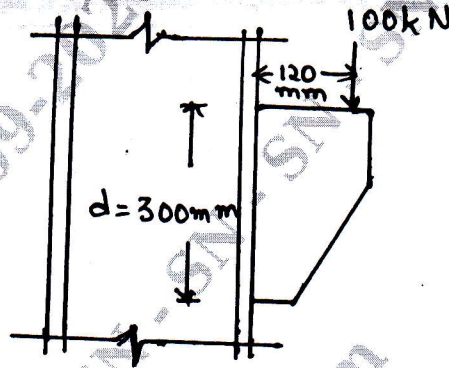

Fig Q4(b)
- b. A plate bracket, carrying a load of 100kN at an eccentricity of 120mm, is connected to the face of a steel stanchion by fillet welds on both the sides of the plate as shown in Fig Q4(b).